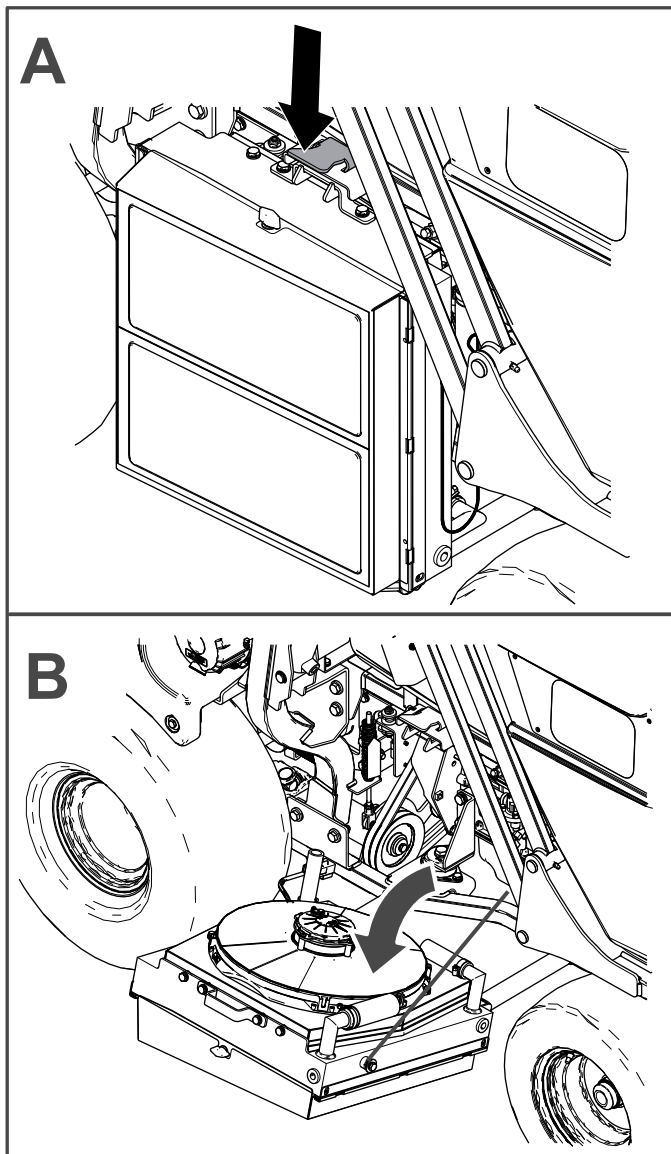

Figure 52
Push down on the latch and lower the radiator to access the engine (Figure 52).
1. Lower the radiator and check the engine-oil level as shown in Figure 52 and Figure 56.